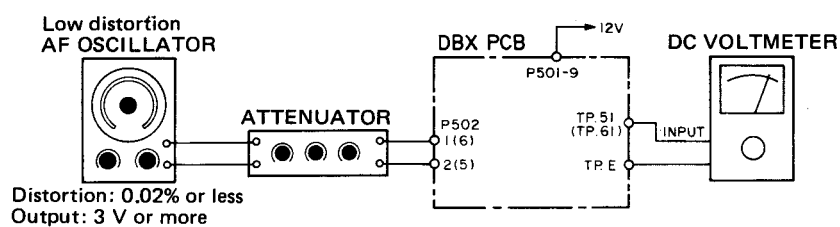

Fig. 5-14
6. Like Fig. 5-14, connect a DC voltmeter to TP51/TP61, then note the reading on the DC voltmeter with an input signal of 1 kHz/-8 dB (308 mV).
9. Check that when the input signal is 100 Hz/-8 dB (308 mV), then 10 kHz/-8 dB, the output signal from 3(4) terminal (OUTPUT) deviates by +0.5 dB $\pm$ 0.5 dB, then -2.8 dB $\pm$ 0.5 dB from -8 dB (reference), respectively.....so that output, as a voltage value, should be 308 mV to 346 mV for 100 Hz, and 211 mV to 237 mV for 10 kHz.